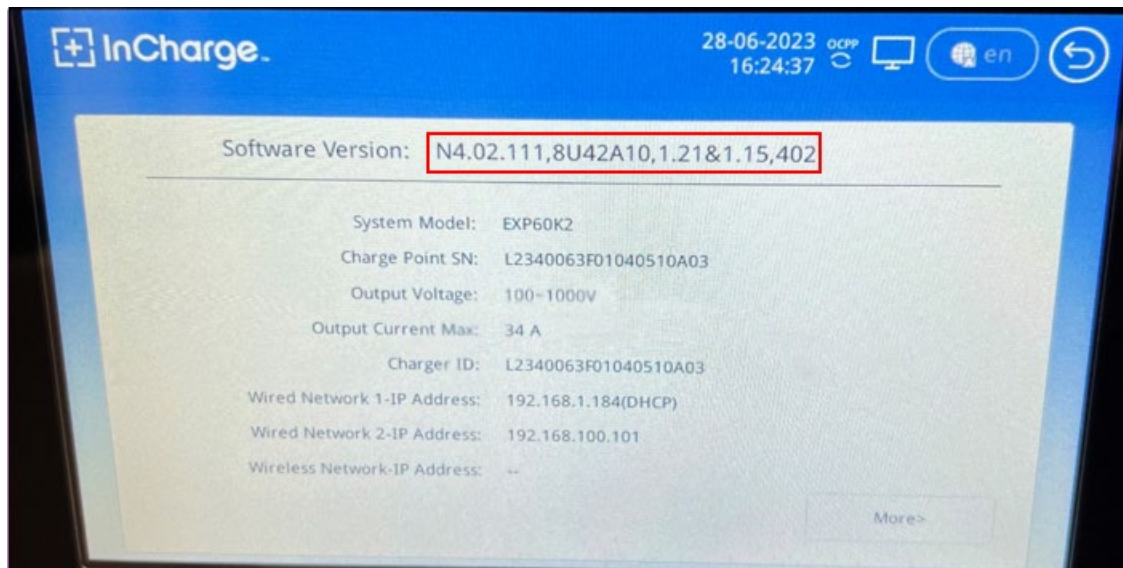

Figure 6.2: Software Version
- The following figure 6.2 software version is for reference only, the actual situation shall prevail.